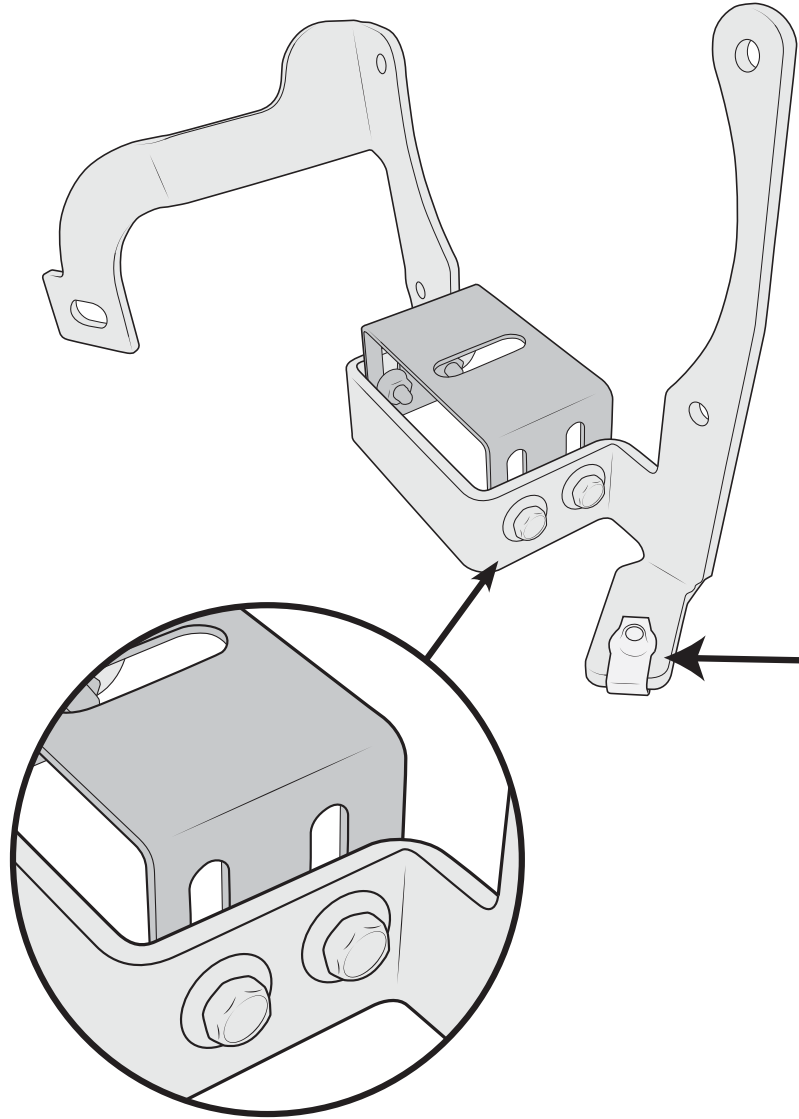

Figure 4
NOTE: Install adjuster brackets in correct orientation (fig. 4).
B. Install supplied U-nuts onto bracket assemblies as shown (fig. 4).